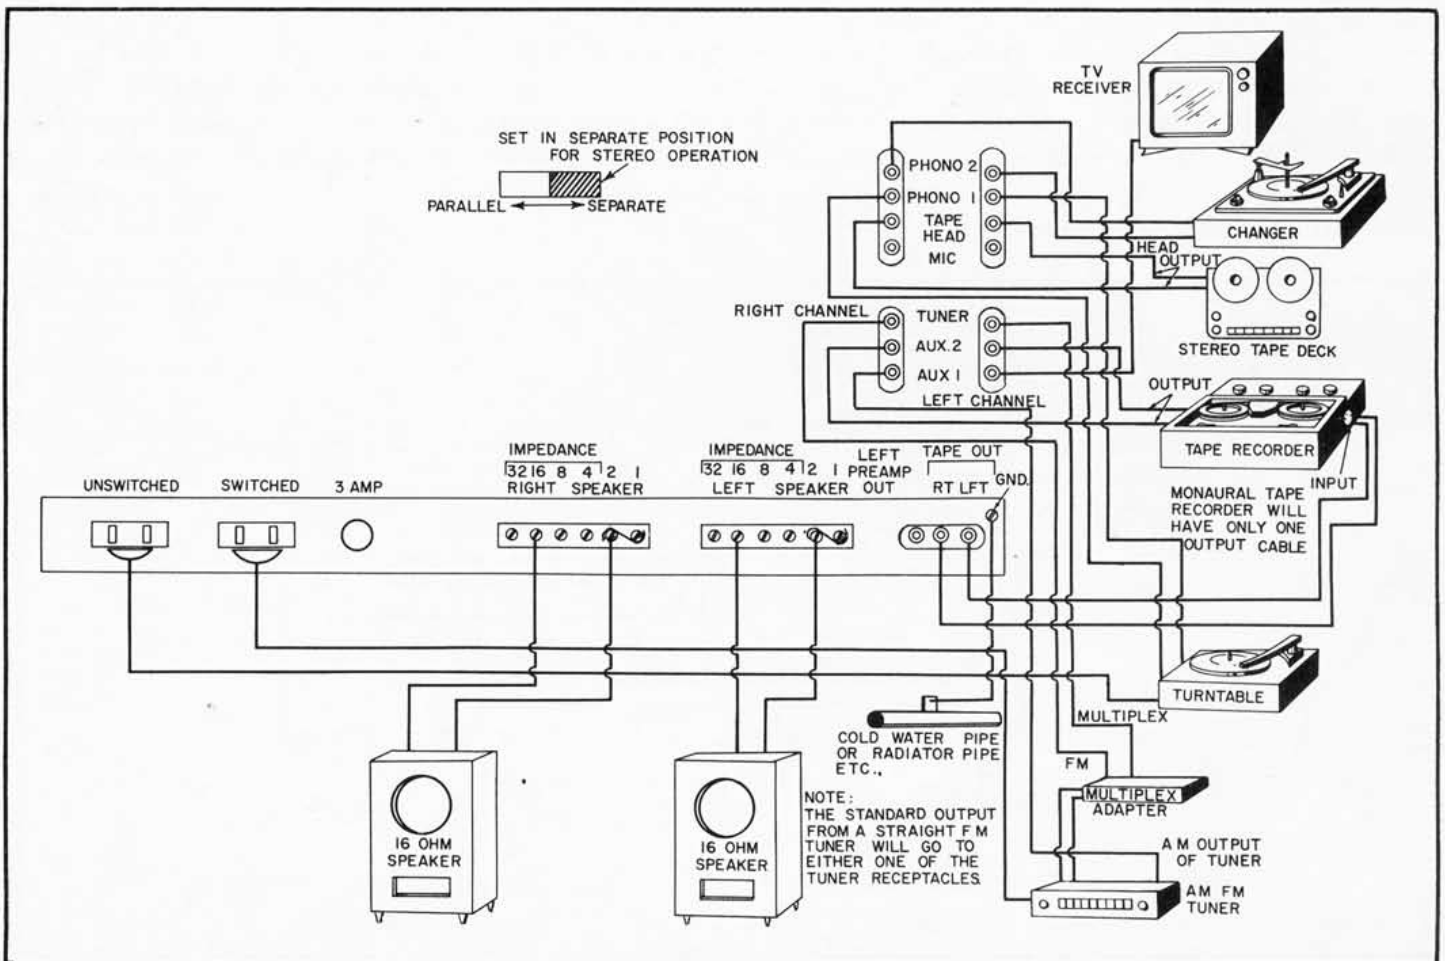
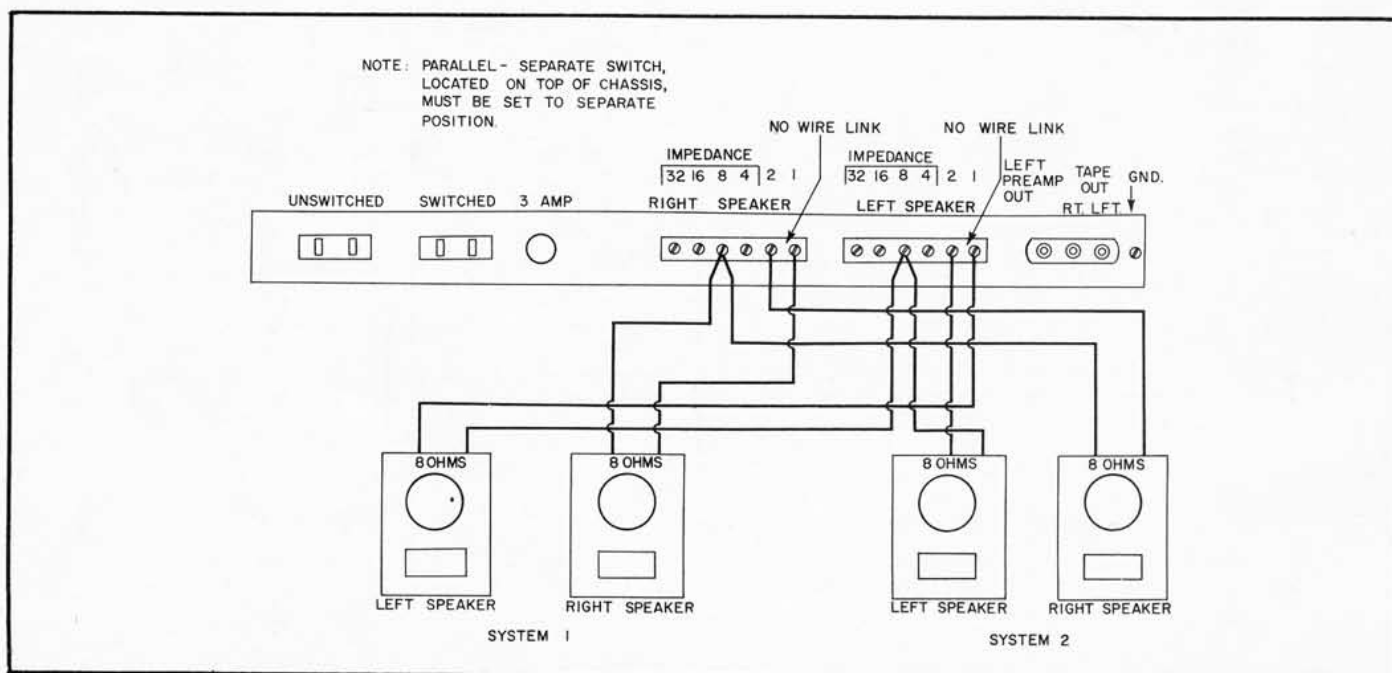

Fig. 1. Connection of Cables and Leads to the SA-40, and Speaker Connections for a Two-Speaker System.
Fig. 2. Standard Stereo Setup Using Two Sets of Speaker Systems. (System 2 Can Be Used in a Remote Location.)
1. For a standard stereo setup, the Separate-Parallel slide switch on the top of the SA-40 chassis must be in the Separate position. For a two-speaker stereo connection, see Fig. 1. If an additional pair of speakers is to be connected in another room, see Fig. 2.
6. One of the most annoying problems in a Hi-Fi system is hum due to improper grounding connections. The manufacturer of the record player or cartridge, for example, usually suggests the correct method for obtaining minimum hum, plus alternate methods for minimizing hum. To avoid hum pickup when the record player contains a magnetic cartridge, be sure there is a minimum of 12 inches between the cartridge and the power transformer on the SA-40. This rule also applies to other transformers and motors, such as the ones for tuners, tape recorders, etc. If the intergrounding of the equipment is not satisfactory, a wire from the ground screw on the SA-40 chassis to the nearest cold or hot water pipe will often further reduce residual hum. See Fig. 1.
Fig. 1 illustrates the input and output connections when your SA-40 is to be used as a complete stereo amplifier. It is extremely important that the Separate-Parallel switch be in the Separate position.
When using only one stereo speaker system do not remove the wire links across terminals 1 and 2 of the right and left speaker output strips. Connect one lead from the left speaker to terminals 1 and 2 on the left speaker output strip, and connect the other lead to the terminal that matches the impedance of your speaker (32, 16, 8, or 4 ohms). Connect the right speaker leads to the right speaker output strip in the same manner. This connection is illustrated in Fig. 1.
To connect two speaker systems, remove the wire links from terminals 1 and 2 of both speaker output strips. (See Fig. 2.) Connect one lead from the left speaker of system 1 to terminal 1 on the left speaker output strip. Connect one lead from the left speaker of system 2 to terminal 2 on the left speaker output strip. The other two leads from these speakers should be connected, on the speaker output strip, to the terminal that matches the impedance of your
speakers. In a similar manner, connect the right speaker of system 1 and 2 to the right speaker output strip. The connections for two speaker systems with eight ohms impedance are illustrated in Fig. 2.